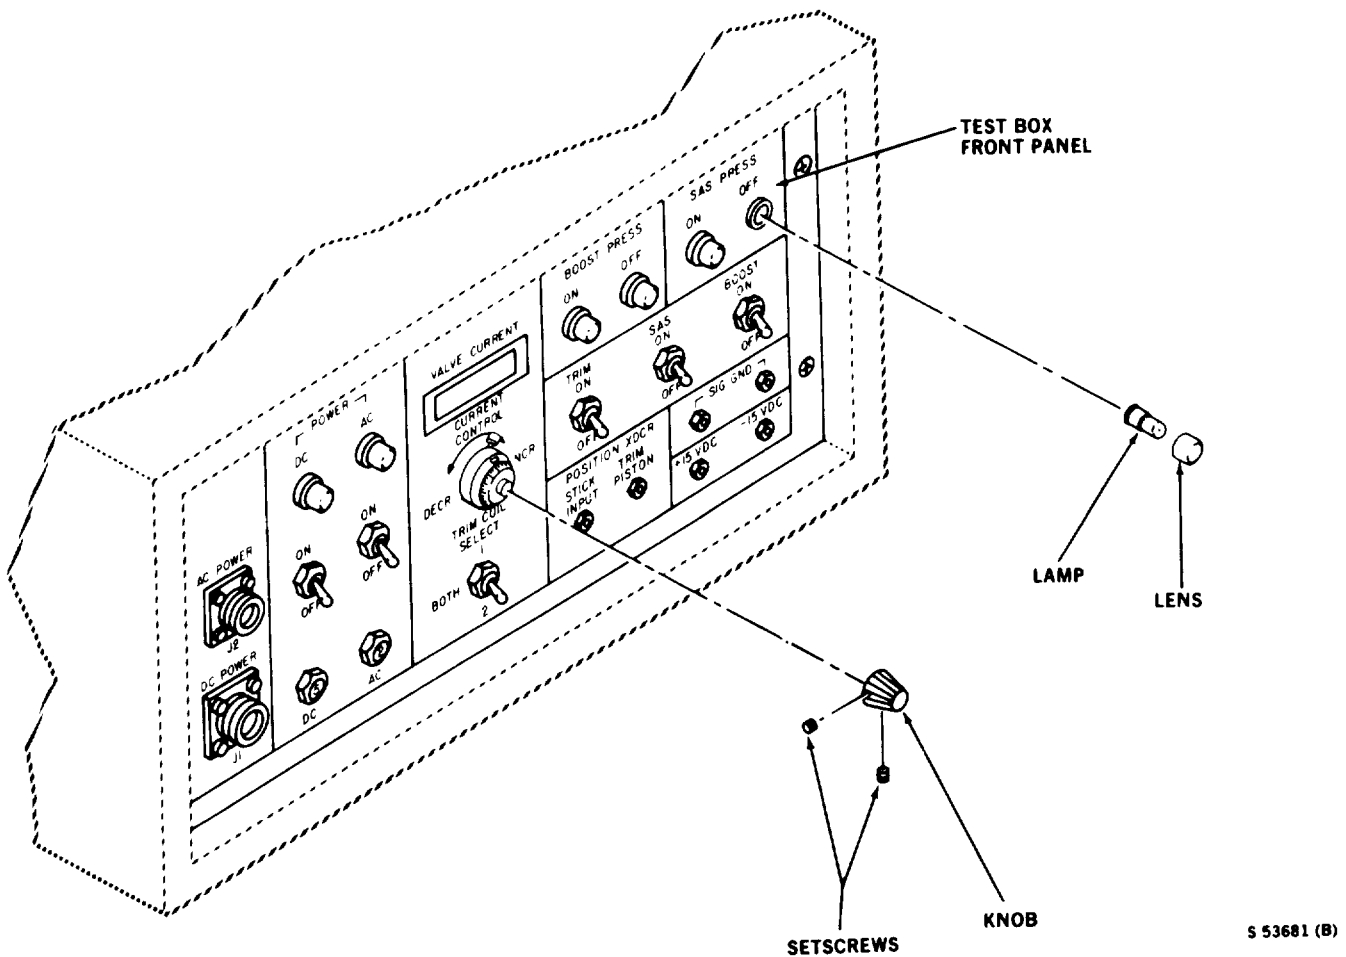

Figure 4-1. Panel Lamp, Lens, and Knob Removal and Replacement
- b. Remove lens cover (Figure 4-1).
- a. Loosen setscrews holding knob to shaft (Figure 4-1).